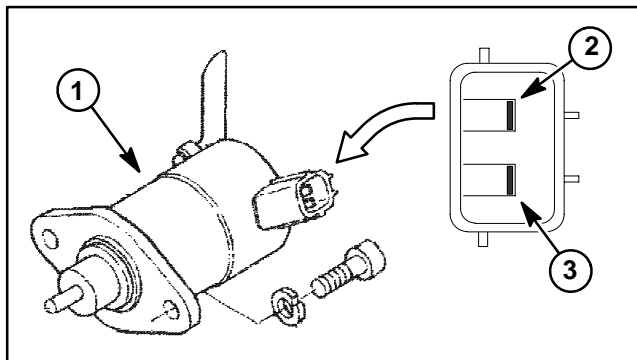

Figure 29
2. Using a digital multimeter, touch one test lead to the pull coil terminal and the other test lead to the run/stop solenoid frame (ground) (Fig. 29). The resistance of the pull coil should be less than 1 ohm (but not zero).
3. Using a digital multimeter, touch one test lead to the hold coil terminal and the other test lead to the fuel stop solenoid frame (ground) (Fig. 29). The resistance of the hold coil should be approximately 15.5 ohms.